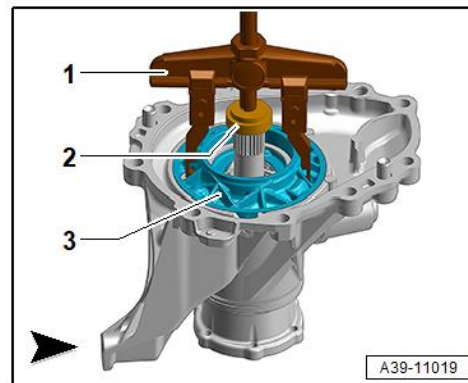

Figure 8. Puller arrangement.
6. Pull out the gear carrier (Figure 8, position 3) using the VAS 251001 with VAS 251 001/2 (Figure 8, position 1) and thrust piece 30 – 555 (Figure 8, position 2).